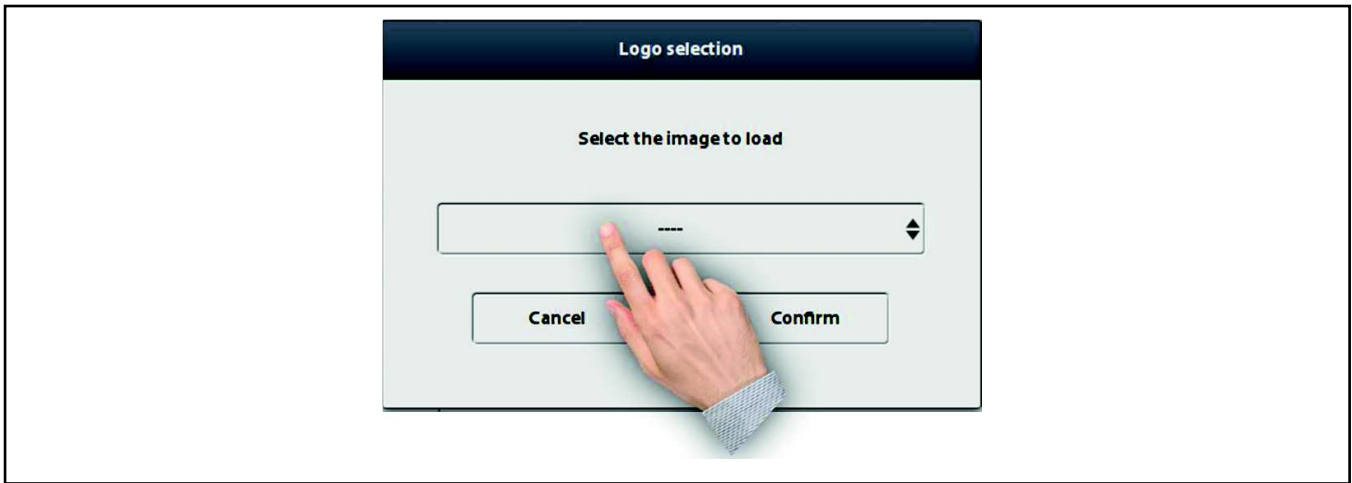

Figure 52 Selecting the Logo Image File
4. In the window shown in Figure 52, press the central field, select the desired image and confirm.